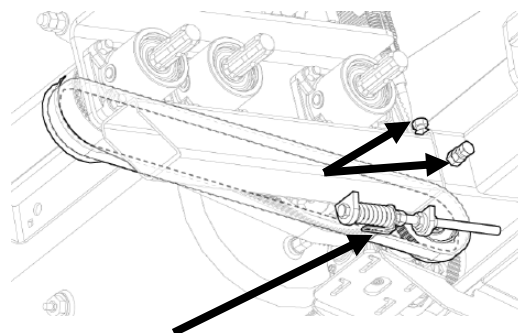

Figure 92
4. Install the belt from the GT case to the gearbox. Tighten the adjusting bolt pushing the GT case out. Tighten the bolt until the spring gauge is even with the edge of the spring. Pull up on the end of the case and tighten the jam nuts. Figure 92